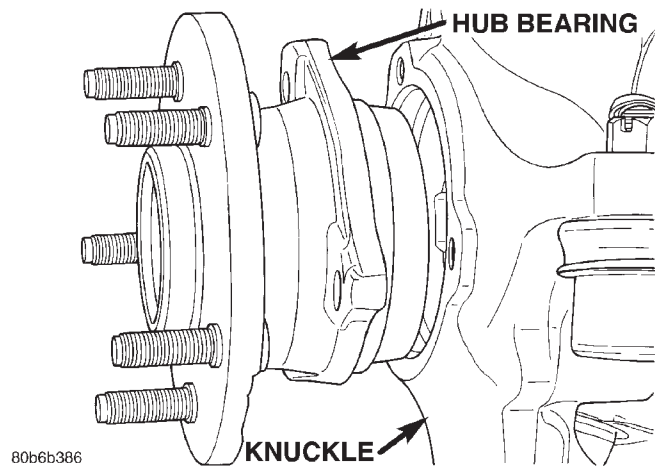

Fig. 16 Hub Bearing & Knuckle
- (1) Raise and support the vehicle.
- (2) Remove the wheel and tire assembly.
- (3) Remove the brake caliper, caliper anchor, rotor and ABS wheel speed sensor, refer to Group 5 Brakes.
- (4) Remove the cotter pin, nut retainer and axle hub nut.
- (5) Remove the hub bearing mounting bolts from the back of the steering knuckle. Remove hub bearing (Fig. 16) from the steering knuckle and off the axle shaft.